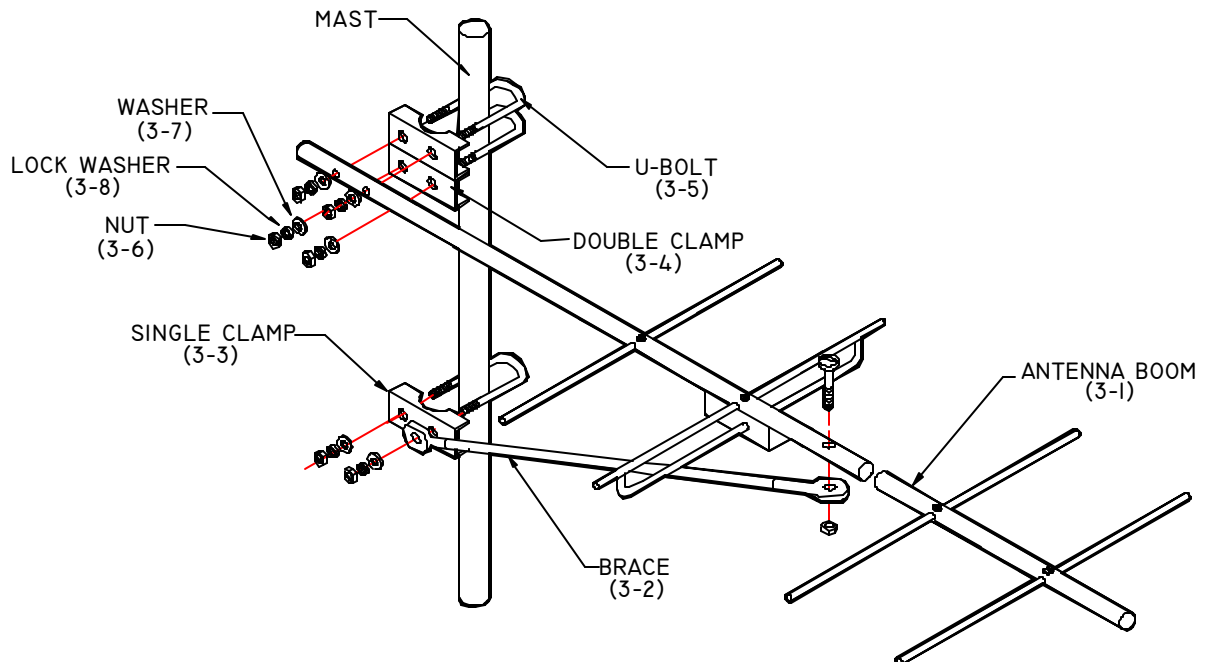

Figure 2
- a. Mount antenna to mast / tower leg using provided hardware, See table below and Figure 2.
- c. Attach brace to the respective leg of the U-bolt. See Figure 2.